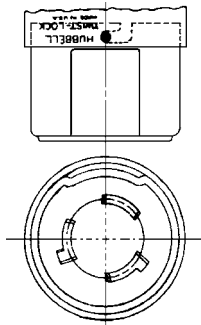

Fig. 2
12. To assure proper assembly, check to see that the nib next to the Hubbell marking on the back metal cover is located on the center line of the rectangular depression in the front metal cover and the two "L" shaped slots on the front cover are completely covered by the back cover. See Fig. 2. (Nib is shaded in black).